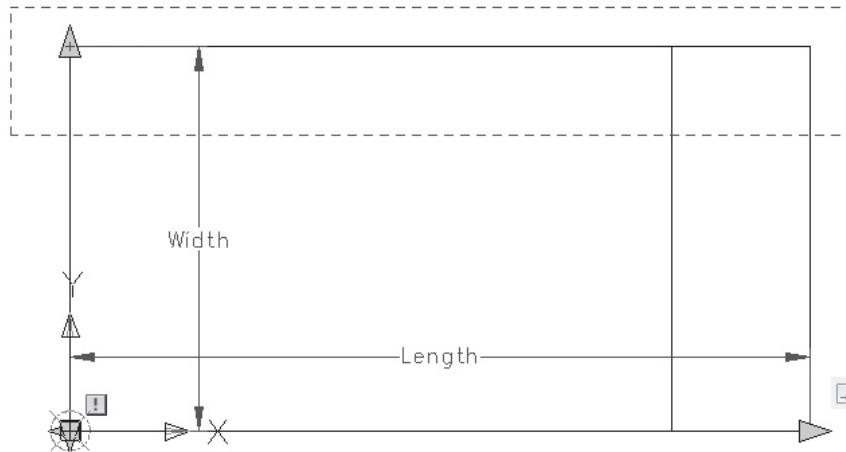

Fig. 34-5
11. For the stretch frame, place a crossing window across the upper half of the bed, as shown in Fig. 34-5.